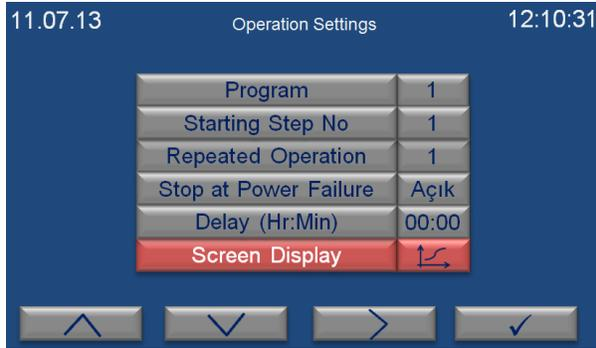

Figure 5
- 3- The selection is on *program* number. Move the selection to *Screen Display* by using tab key (F3). Use increase (F1) and decrease (F2) keys to change the Screen Display as graph as shown in Figure 5 and push enter key (F4).